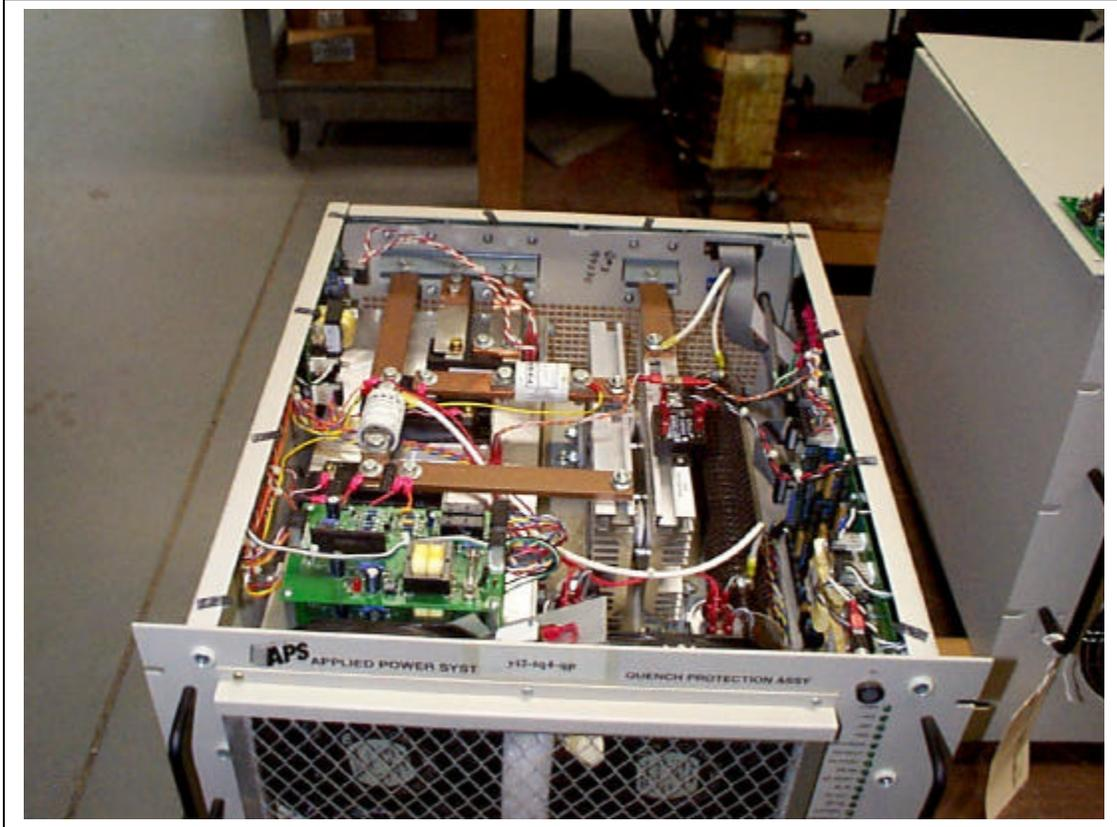

Figure 6
9. Next, you should remove the cover of the QPA. Figure 6 is a view of the top of the model 03 QPA with the cover removed. If you don't have a model 3 then it may look a little different. For a model 3 the 2 IGBT cards are located towards the front left hand side of the QPA.